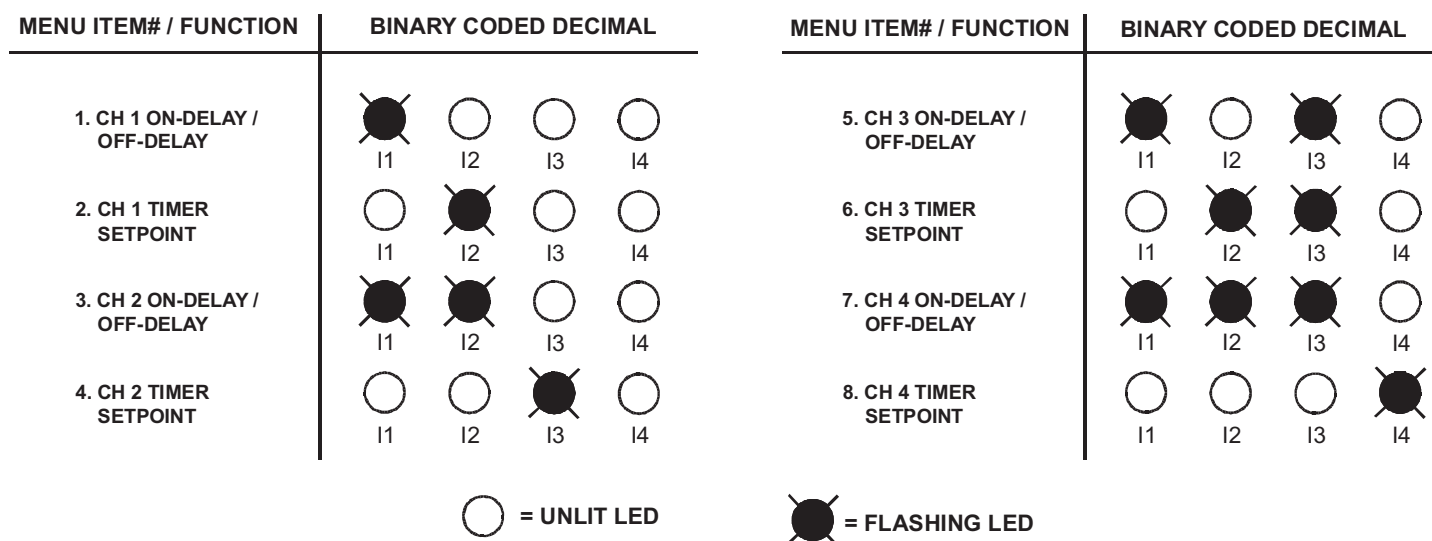

Figure 2.6 - LED Indicator Binary Coded Decimal
To be able to configure the module channels, you must first understand the configuration menu. Pressing the B1 button will enter the configuration menu. Indicators I1 - I4 will indicate which menu item is currently being viewed/modified. The menu number is displayed on these indicators using Binary Coded Decimal (BCD). When in the configuration Menu, the indicator(s) will flash this BCD. Figure 2.6 illustrates BCD and it's corresponding menu item. Please note, for illustration purposes, the I1-I4 indicators are shown on-steady, but in reality they will be flashing.
- Using the B1 button, cycle through the configuration menu until the desired menu item is displayed (1, 3, 5, 7 depending upon channel). Refer to Figure 2.6 for menu items. Verify the correct menu item per the indicator LEDs.
- Using the B1 button, cycle through the configuration menu until the desired menu item is displayed (2, 4, 6, 8 depending upon channel). Refer to Figure 2.6 for menu items. Verify the correct menu item per the indicator LEDs.